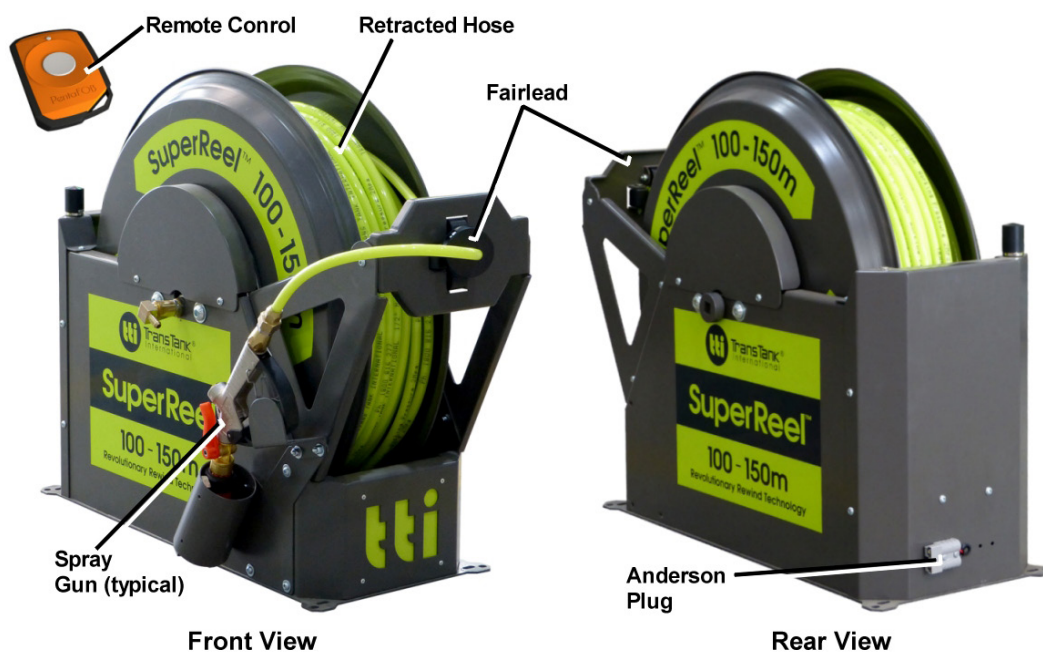

Figure 5 - SuperReel
17. Press the button on the remote control supplied with the SuperReel to start retracting the hose, refer to Figure 5. The hose will wind on to the reel's spool, guided by the integrated fairlead.